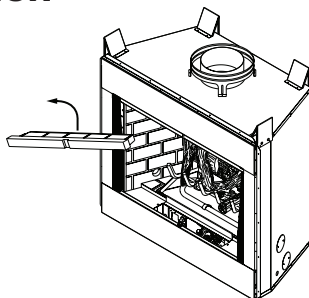

Figure 13 - Removing Front Refractory Access Panel
1. Remove front refractory access panel by lifting up and angling out of firebox opening (see Figure 13).